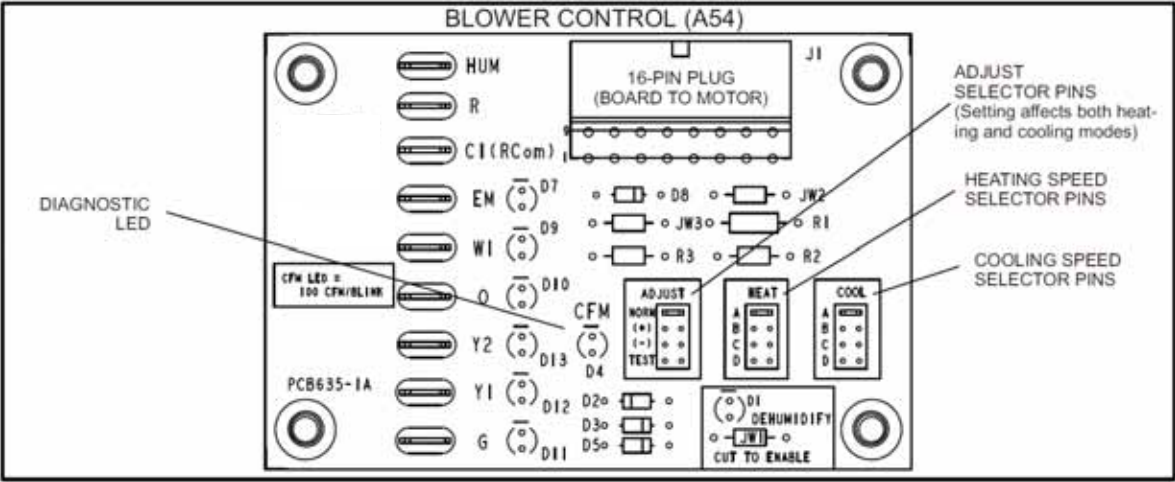

Figure 5.
Units are equipped with a variable speed motor that is capable of maintaining a specified CFM throughout the external static range. A particular CFM can be obtained by positioning jumpers (COOL, HEAT, and ADJUST) on the blower control. The HEAT and COOL jumpers are labeled A, B, C and D. Each of the numbers corresponds with an air volume (CFM) setting. The ADJUST jumper is labeled Test, -, +, and Norm. The + and - pin settings are used to add or subtract a percentage of the CFM selected. The Test jumper is used to operate the motor in the test mode. Figure 5 shows the blower control.
**The CFM LED** located on the blower control flashes one time per 100 cfm to indicate selected blower speed. For example, if the unit is operating at 1200 CFM, the CFM LED will flash 12 times. If the CFM is 1150, the CFM LED will flash 11 full times plus one fast or half flash. At times, the light may appear to flicker or glow. This takes place when the control is communicating with the motor between cycles. This is normal operation. Read through the jumper settings section before adjusting the jumper to obtain the appropriate blower speed. To change jumper positions, gently pull the jumper off the pins and place it on the desired set of pins. The following section outlines the different jumper selections available and conditions associated with each one. Refer to Figure 5.